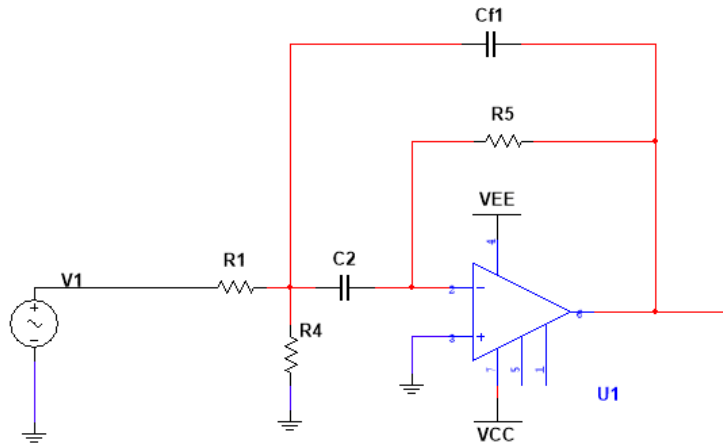

Fig 5.1: Second order Narrow band pass filter
2. Setup the circuits as shown in figure 5.1 and 5.3